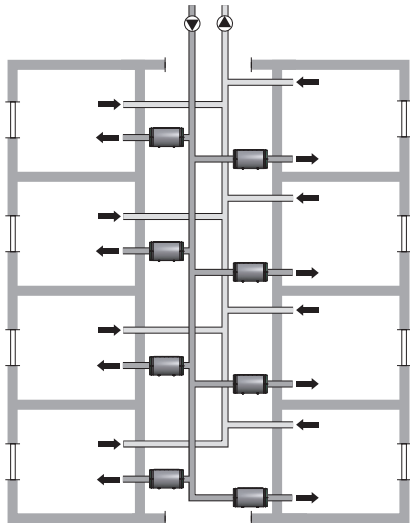

Fig. 2
3. Thermal device duct (T-branches) must not be installed directly opposite each other. Install according to Fig. 2.